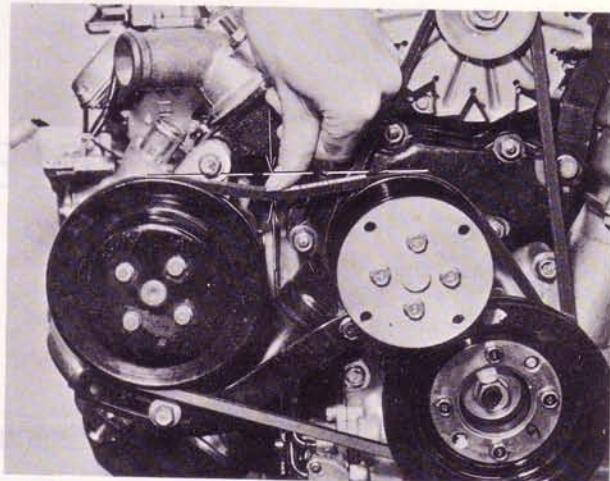

Fig. 1-95 Adjusting air pump belt
5. To adjust the "V" belt tension, push the "V" belt with about 10 kg (22 lb) as shown in Fig. 1-95. The belt deflection should be $10 \pm 1 \text{ mm}$ ($0.40 \pm 0.04 \text{ in.}$).